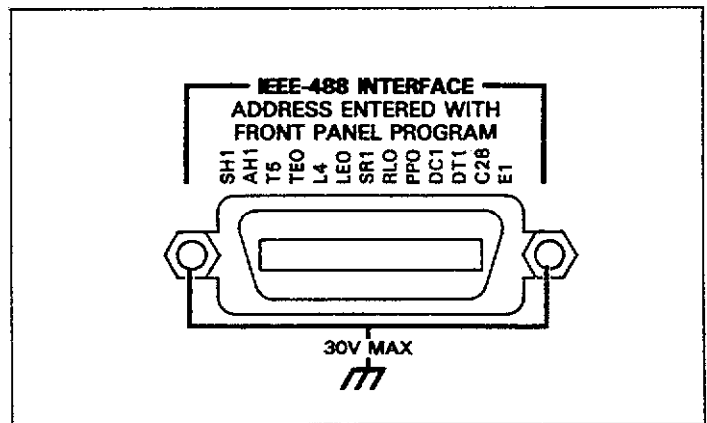

Figure 4-4. Model 595 Rear Panel IEEE-488 Connector
1. Line up the connector on the cable with the connector on the rear panel of the instrument. Figure 4-4 shows the IEEE-488 connector.